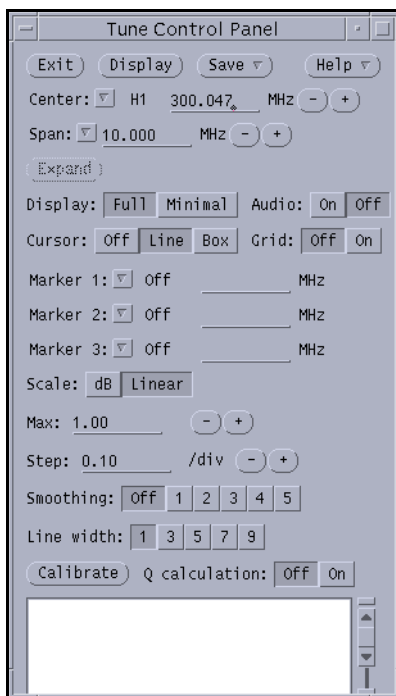
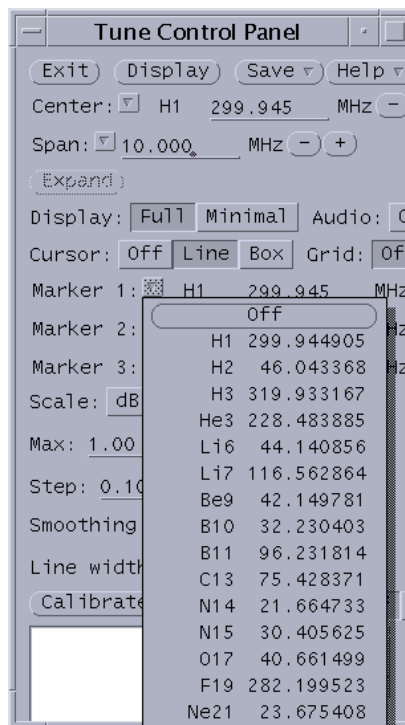

Figure 25. Tune Control Panel
Figure 29. Pull-Down Menu
- a. In the Tune Control Panel (see Figure 25), click on the triangle next to one of the markers to open a pull-down menu (Figure 29 shows the Marker 1 menu). For more detail on using markers, see the “To Use Cursors, Grid, and Markers,” page 121.
Markers – In the **Marker 1**, **Marker 2**, and **Marker 3** fields, the Tune Control Panel provides three markers for marking fixed frequencies. Each marker has a pull-down menu (see Figure 29) that lists the same nuclear frequencies and the Center pull-down menu. Each marker also has an entry field for entering a frequency.